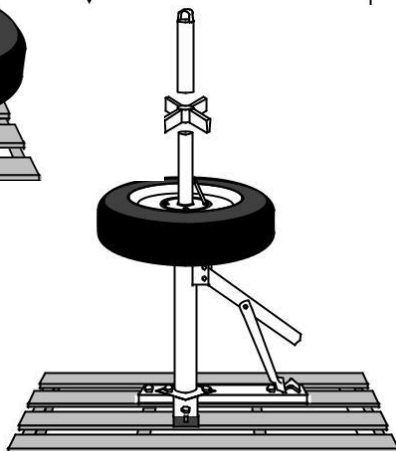

Figure 9
13. Thread Spider Post over Center Post with tapered side going into wheel hub. See Figure 9, below.
14. Thread Post Cap onto Center Post. This will tighten Spider Post, locking tire into place. See Figure 9, below.